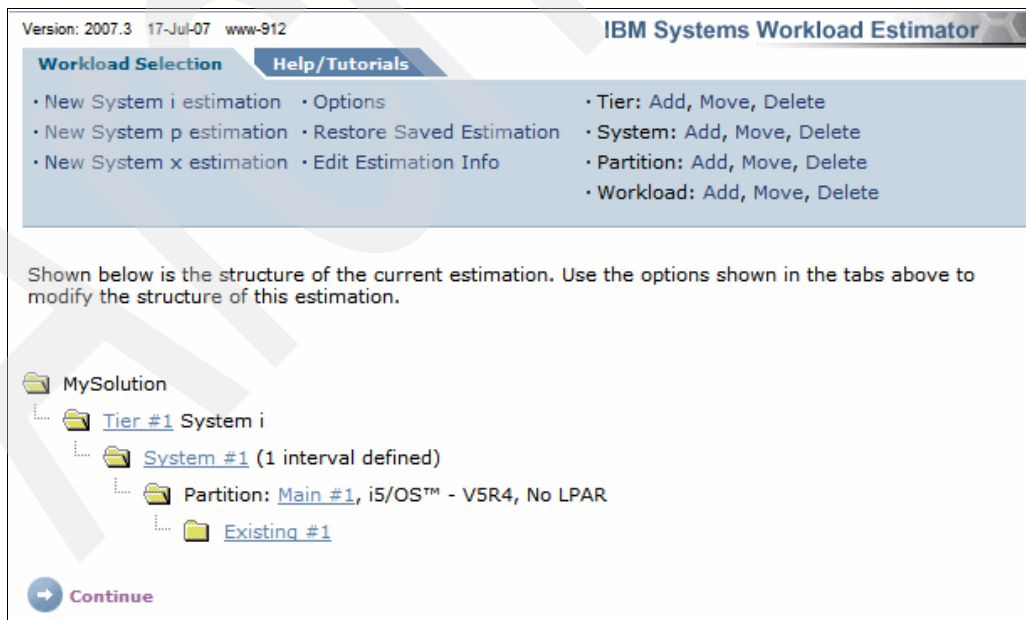

Figure 4-92 Initial panel with the Existing #1 workload
- You return to the initial panel, which contains the Existing #1 workload (see Figure 4-92). Click **Continue**.